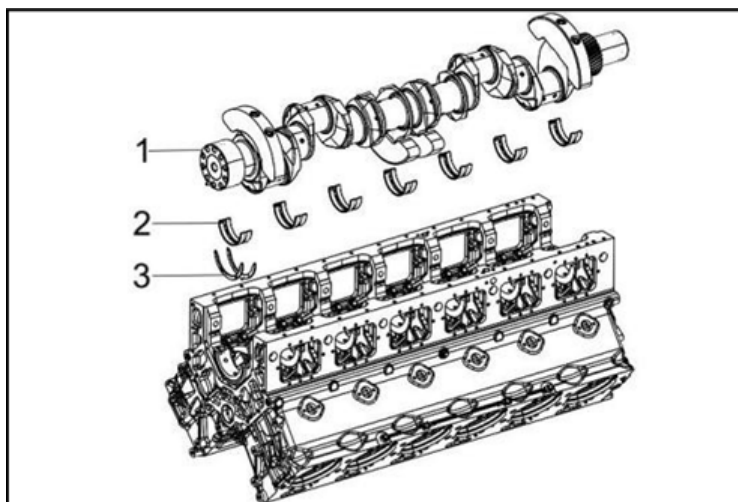

Figure 134.
3. Reinstall new main bearing (Figure 134, item 2) and thrust plate (Figure 134, item 3) in the cylinder block and main bearing caps.
5. Place the crankshaft (Figure 134, item 1) into the engine.